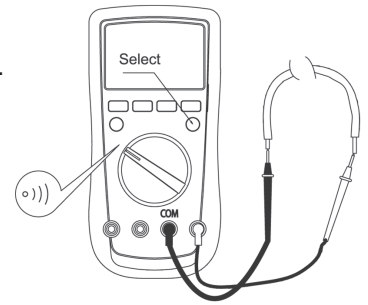

Figure 5
D. TESTING FOR CONTINUITY (See Figure 5)